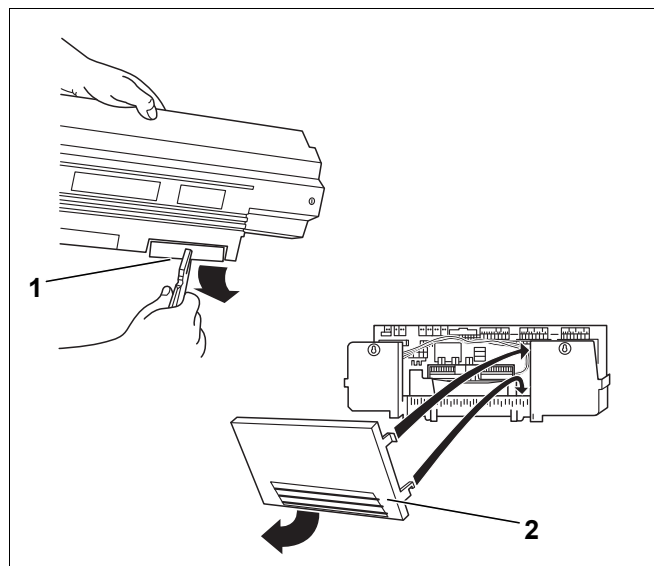

Fig. 44 Cable gland preparation
- Where necessary remove any knockouts (Fig. 44, [1]) in the back of the cable gland (Logamatic 33..) or from the rear wall (Logamatic 43..) (Fig. 44, [2]).
- Hook the rear wall (Logamatic 43..) with the lower hooks into the clip frame and push the top part home, until the hooks engage (Fig. 44, [2]).